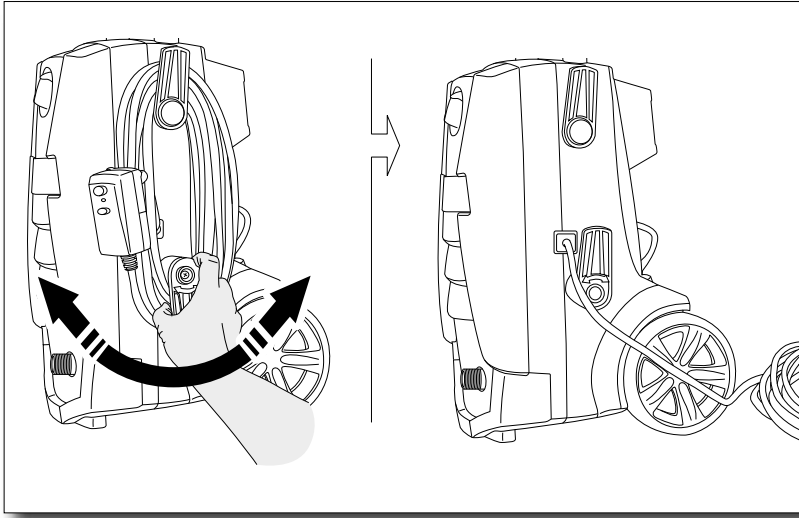

Fig. 4
- Easily remove the power cord from side of unit by swiveling the bottom cord hook to the right or left until it faces up. The power cord then can be easily slid off of the side of the power washer unit. **(Fig. 4)**